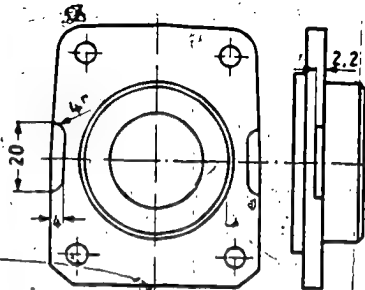

Fig. 15 Grey cast iron endplate
c) New injection pumps are delivered with pressed-in endplates of grey cast iron. These endplates can be identified by the 20 mm wide and 2.2 mm high lifting recesses (Fig. 15), and